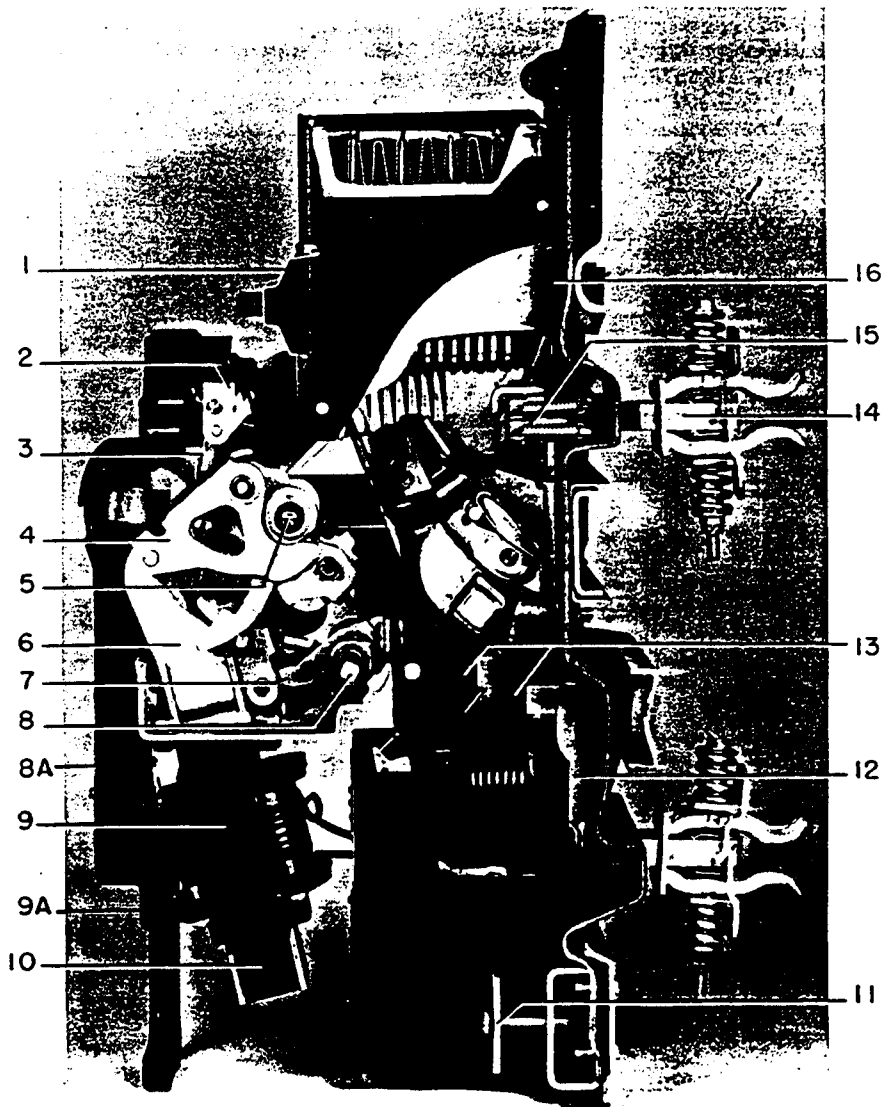
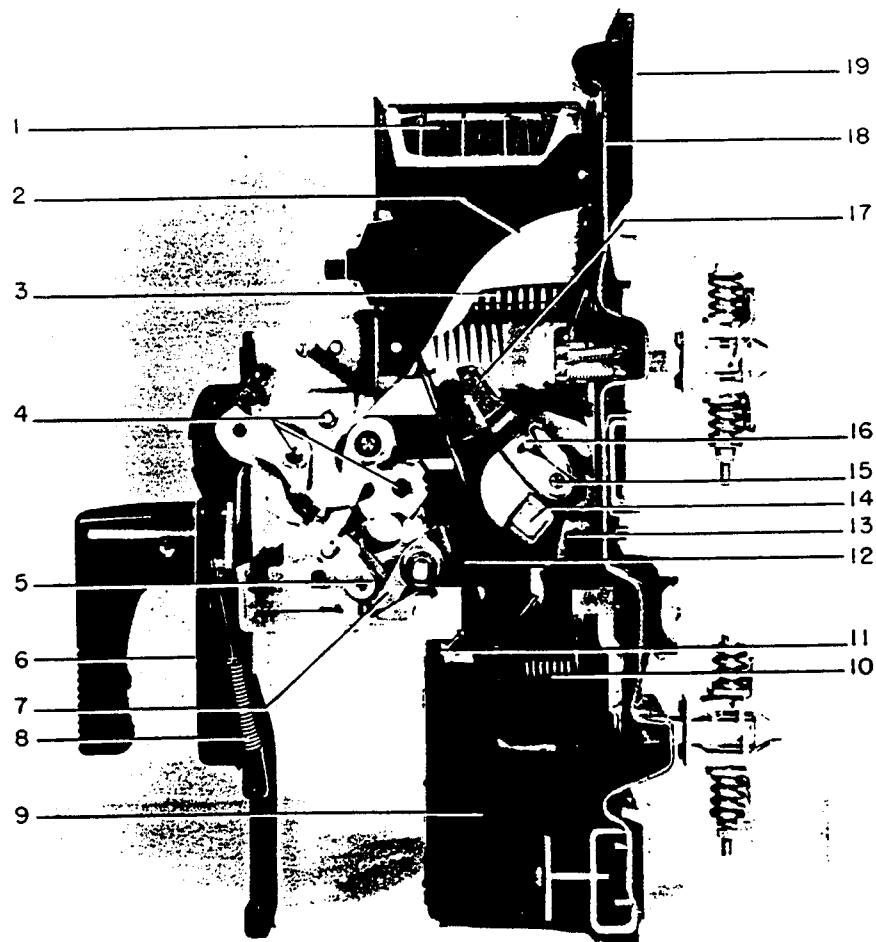

Figure 5. (8024457) Cut Away Model of Electrically Operated AK-2 Breaker
Figure 6. (8024516) Cut Away Model of Manually Operated AK-2 Breaker
1. Remove arc quencher retainer (1), Figure 5 by loosening the two captured nuts with a 7/16" wrench.
The breaker mechanism is tripped by the displacement of the trip latch (7), Figure 6. Looking at the breaker from the right hand side as in Figure 5, the tripping movement of the latch is counter-clockwise. Operation of any of the automatic trip devices or the trip push button causes the latch to move in the tripping direction. When the latch moves off the trip latch roller (7), the remaining force in the operating spring causes the mechanism toggle to collapse, resulting in the opening of the breaker contacts.
listed is that of proper mechanism latch engagement, the amount of engagement between the latch (7) and latch roller (5), Figure 6. This is the only adjustment that is required on the breaker mechanism, and proper latch engagement is obtained in the following manner:
(NOTE - Before making latch adjustments, check to make sure that the buffer paddle which stops against the end of the latch adjustment screw is rigidly fastened to the trip shaft. Hold the trip shaft (8), Figure 5, steady and attempt to move the buffer paddle. If any relative movement between the two is noted, tighten the fasteners holding the buffer paddle to the trip shaft.)
5. Remove handle reset spring (8) Figure 6, and escutcheon is free of breaker.
The closing solenoid consists of a magnet, armature and coil. This assembly is located directly beneath the breaker mechanism to which it is connected by a link which ties the upper end of the armature to the spring carrier of the mechanism. (See Figure 5.)